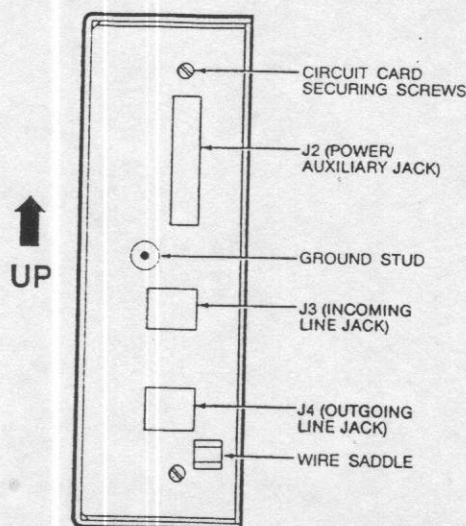

Figure 1 Housing Rear Panel
4. Using Figure 1 as a guide, unscrew the two screws which secure the M-106 card to the rear panel of the housing, unlock and detach the front panel of the housing, and then remove the card.